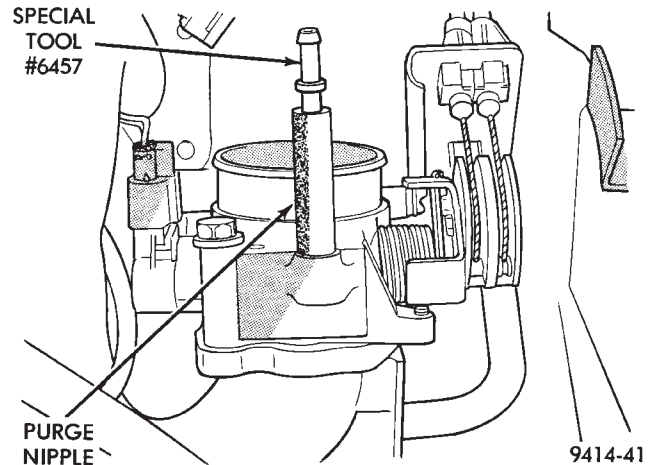
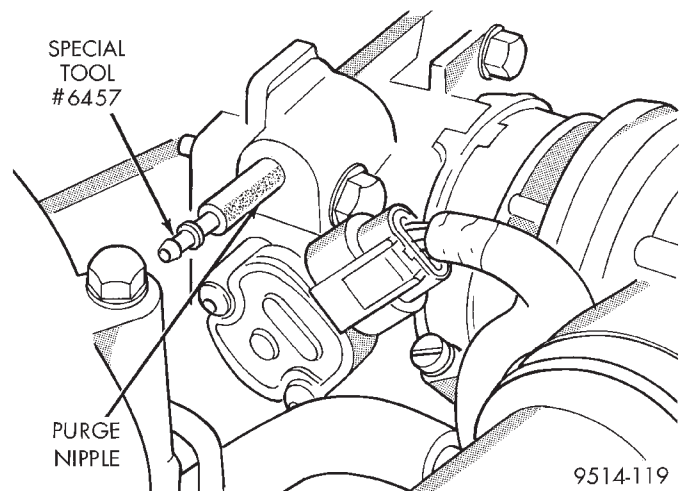

Fig. 71 Orifice 6457 Attached to Purge Nipple—2.0/2.4L Engines
Fig. 72 Orifice 6457 Attached to Purge Nipple—2.5L Engine
(4) Use a piece of hose to attach Air Metering Orifice 6457 (0.125 in. orifice) to the purge nipple on the throttle body (Fig. 71) or (Fig. 72).
(5) Ensure that all accessories are off.